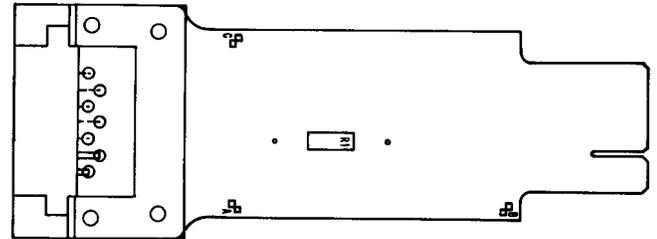

Fig. 10—804A Extender Tool
2.19 **804A:** The 804A extender tool (Fig. 10) is used to extend the D39 circuit packs for testing.